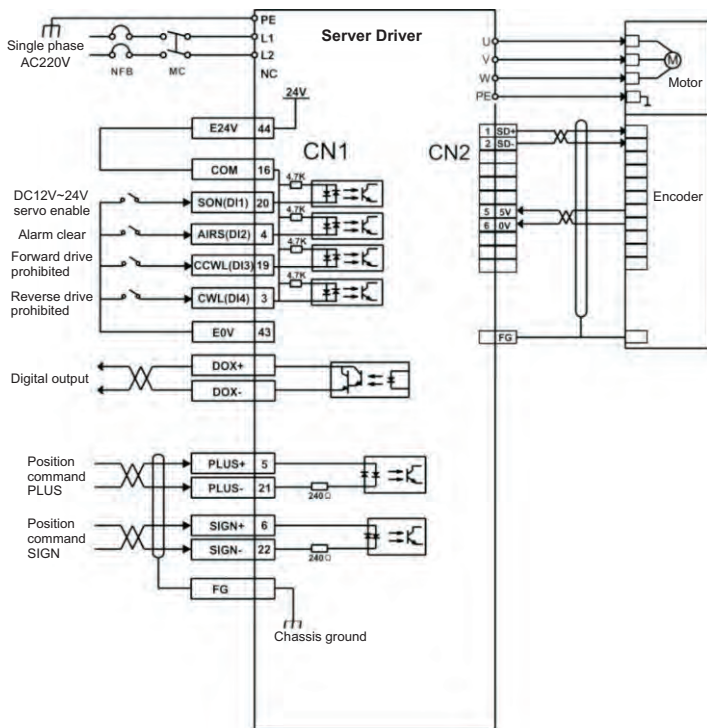

Figure 5.2 Position mode wiring diagram
- ✧ Refer to Figure 5.2 for wiring instructions to connect the pulse direction input and pulse command input in the CN1 terminal, as well as the required DI/DO signals, such as servo enable, alarm clear, positioning completion signal, etc.